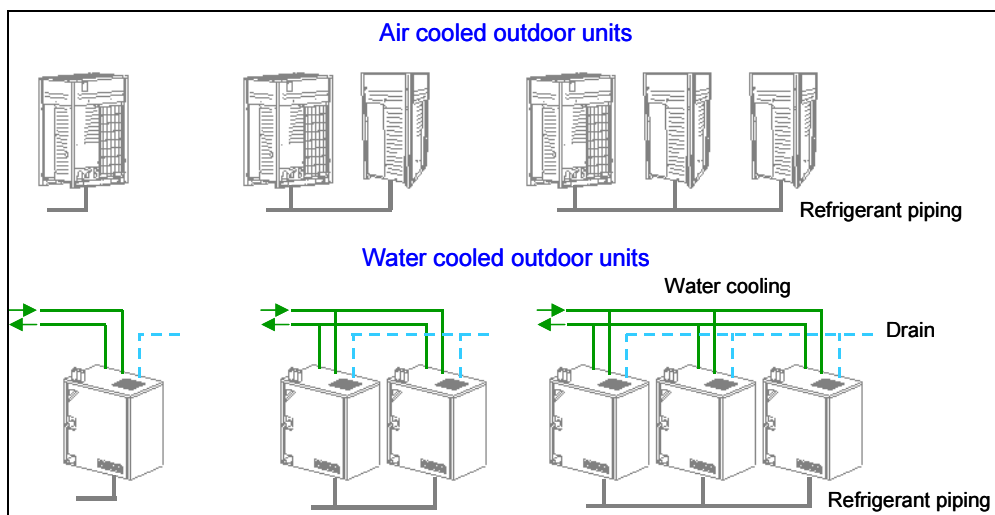

Figure 4: Outdoor units
Figure 4 shows different kinds of outdoor units:
- An **air cooled outdoor unit** (Figure 4 at the top) uses the ambient air to cool down or heat up the refrigerant that goes to the devices it is connected to. Depending on the number and size of the devices it is connected to, an outdoor unit consists of one, two or three interconnected outdoor unit modules.
- A **water cooled outdoor unit** (Figure 4 at the bottom) uses the water to cool down or heat up the refrigerant that goes to the devices it is connected to. In contrast to air cooled outdoor units, a water cooled outdoor unit can be installed inside a building. As for the air cooled outdoor units, a water cooled outdoor unit consists of one, two or three interconnected outdoor unit modules.